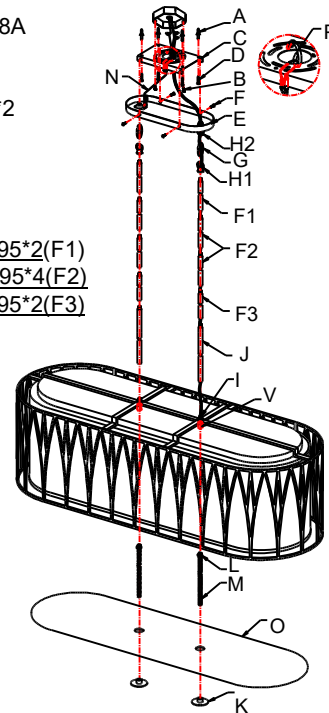

Fig. 2
CONNECTING THE WIRES (Fig. 2)
10. Connect the electrical wires as shown in figure 2, making sure that all wire connectors are secured. If your outlet has a ground wire (green or bare copper), connect the fixture's ground wire to it. Otherwise, connect the fixture's ground wire directly to the mounting plate (C) using the green screw provided.